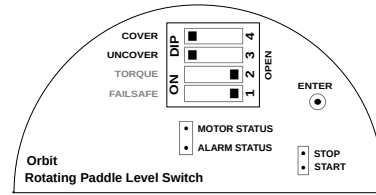

Figure 22: RPM Control Switch Position
- Set the COVER and UNCOVER switch to CLOSE (Opposite of OPEN for a DIP switch) position as shown in Figure 22.